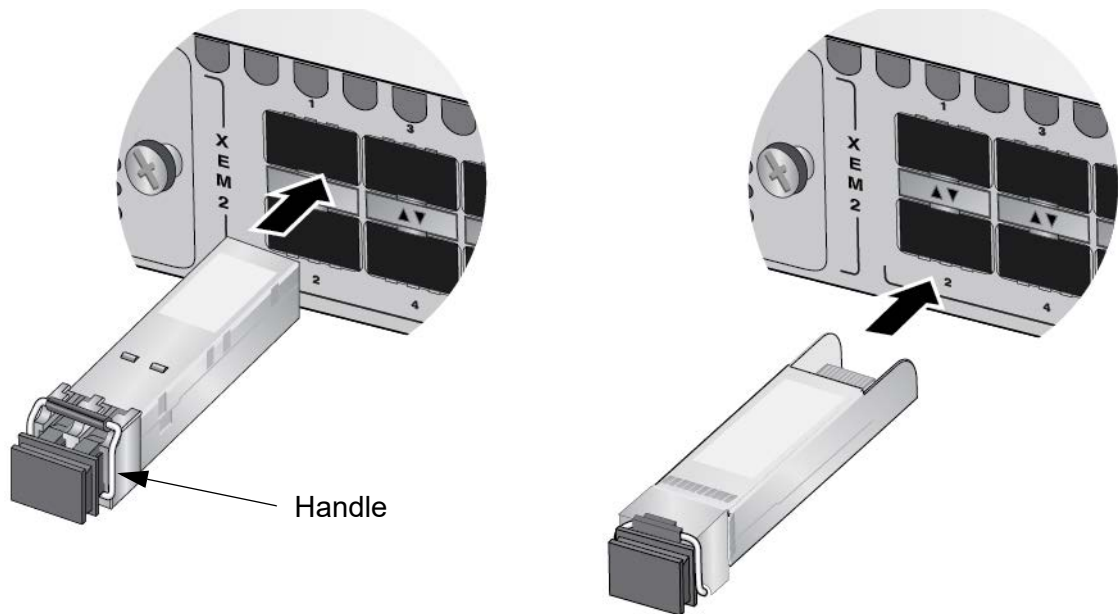

Figure 134. Installing an SFP or SFP+ Transceiver
- ❑ Base ports 1 to 24 and XEM2-8XSTm and XEM2-12XS Line Cards - To install a transceiver in an odd numbered port, position it with its handle on top. To install a transceiver in an even numbered port, position it with its handle on the bottom. Refer to Figure 134 on page 239.